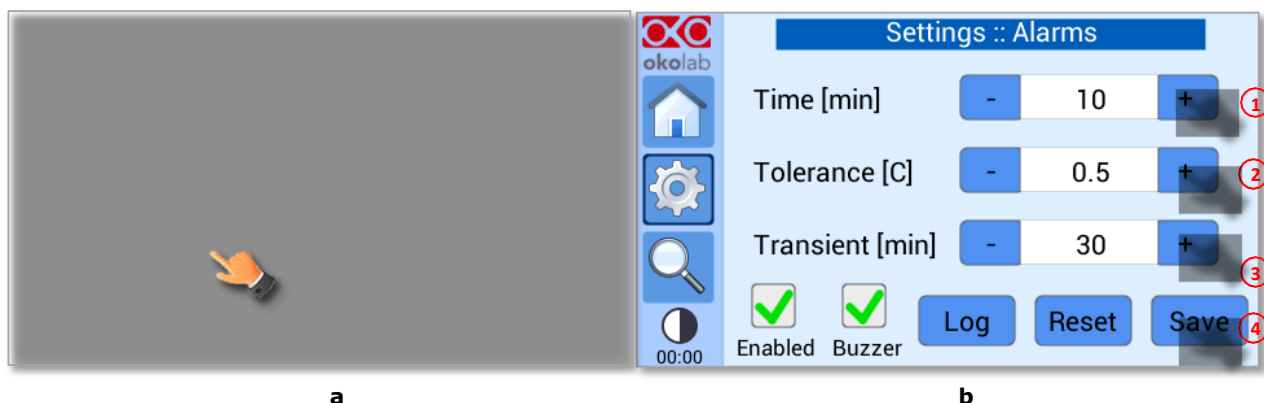

Figure 59. Alarms settings. (a) How to enter the Alarm setting menu; (b) Alarm configuration
To set the alarms specifications, press on the Alarms icon  ; see Figure 59(a) then follow the indications below:
- 1 Insert the alarm time; i.e. the time for which the temperature of the Heating Devices may remain outside the allowed tolerance before the controller triggers in alarm, see 1 in Figure 59(b)
- 2 Insert the *Tolerance* value, see 2 in Figure 59(b). This value defines the allowed tolerance form the set point.
- 3 Insert the transient time; i.e. the maximum time that the system can take to reach a new set point, without triggering the alarm, see 3 in Figure 59(b).
- 4 Flag the tab labeled *Buzzer* if you want the alarm to be acoustical, additionally to being visual, see Figure 59(b)
- 5 Flag the tab labeled *Enabled* to enable the Alarms logic, see Figure 59(b)